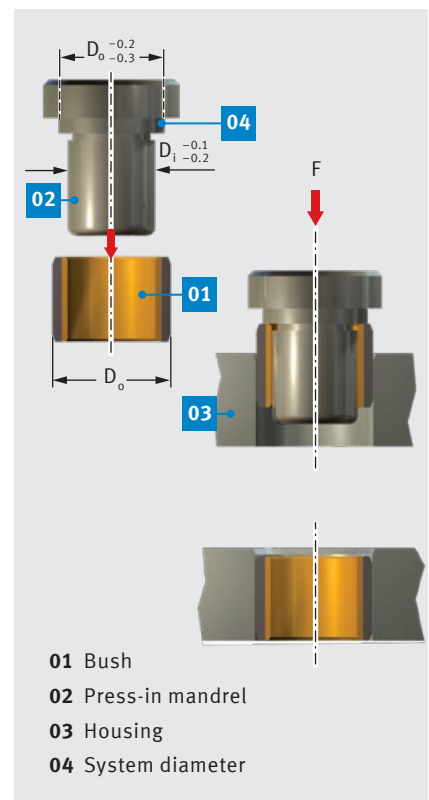

Fig. 53: Recessed press-fitting $D_o \leq 55$ mm
- Recessed press-fitting with mandrel, without auxiliary ring, as per Fig. 53.